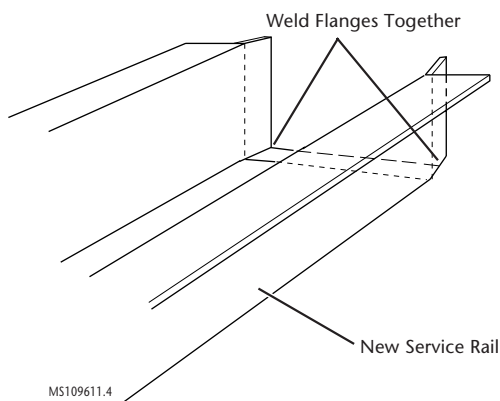

Figure 11-4:
- 4 Step the tabs inward to allow the service section to fit inside of the original rail. Weld the tabs together along the edges (figure 11-4).